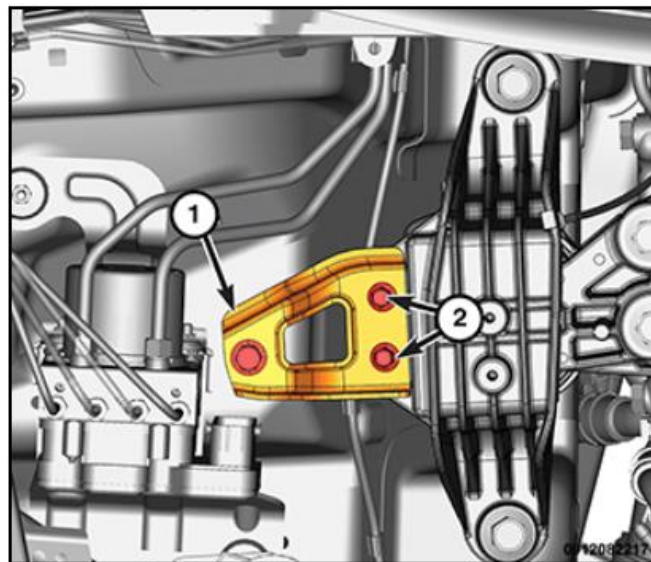

Fig 4. Right Mount to Strut Tower Bracket
4. Loosen the bolt for the right engine mount to strut tower (Fig 4. Labelled 1) attachment, if equipped.